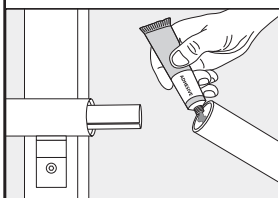

Fig. 4
2. Apply aluminum adhesive and slide the internal joiner half way into the aluminum lineal (Fig. 4).